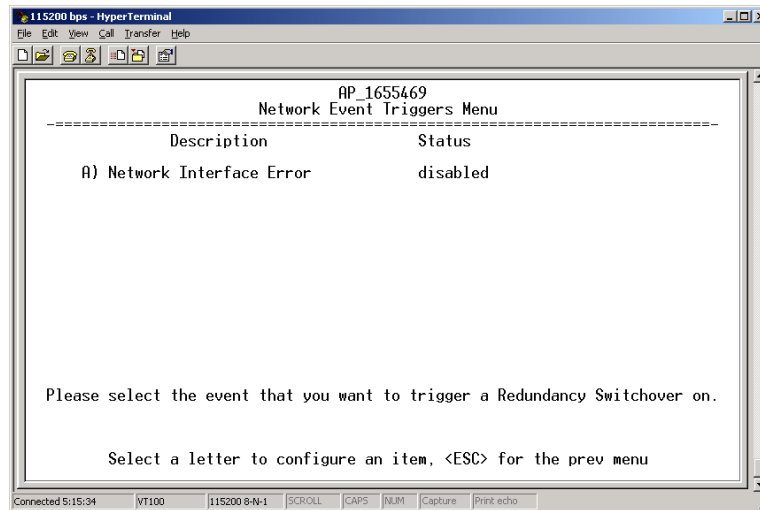

Figure 3-61. Network Events Triggers Menu
- ⌘ **Network Event Triggers** This selection opens a submenu (Figure 3-61 on Page 95) where you can set/view the trigger status for Network Events.